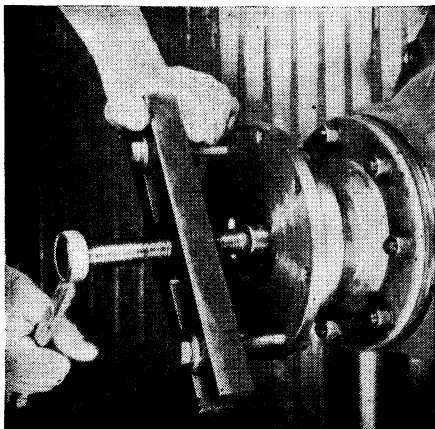

Fig. 78 Removing flange or yoke with puller
13. Remove flange or yoke with suitable puller, Fig. 78. Driving the flange off will cause runout.